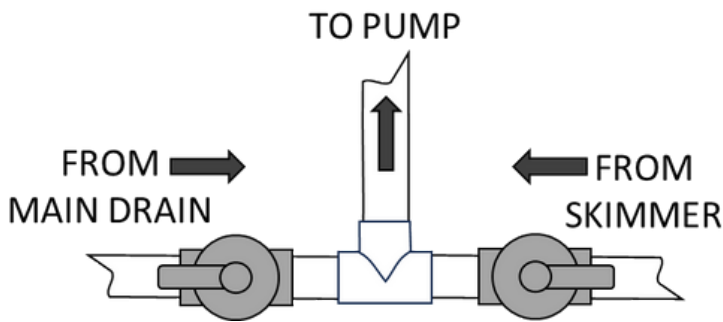

Figure 15
- 1 To ensure sufficient draining of suction lines during the winterizing process, a 2-Way Shut-off Valve should be installed in each branch of the suction line leading to the filtration pump. (See Figure 15).